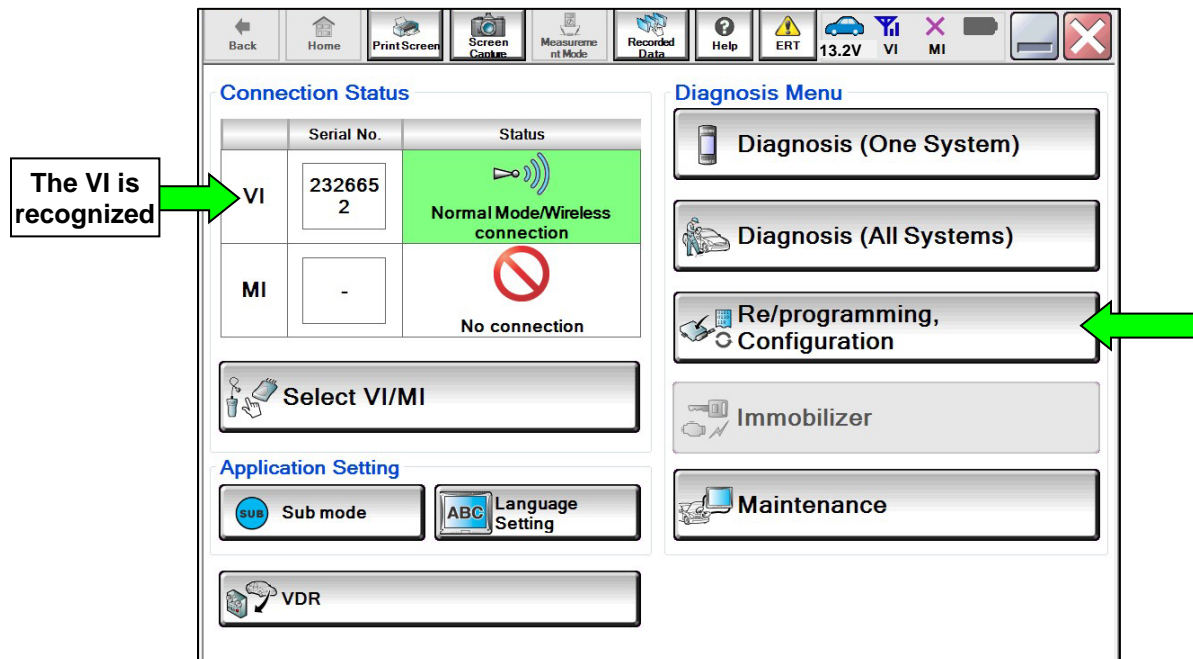

Figure 1
7. Wait for the VI3 to be recognized (Figure 1).